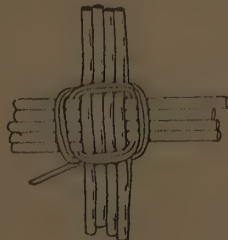

FIG. 11
8. Bring the weaver up, over the horizontal spokes, across behind the vertical spokes, then down, over the horizontal spokes, and across, behind the vertical spokes. Make another round exactly like this (Fig. 11).
8. Weave up over the group of 5 horizontal spokes across behind the vertical spokes, down over the horizontal spokes and across behind the vertical spokes. Make another round exactly like this one (Fig. 11).